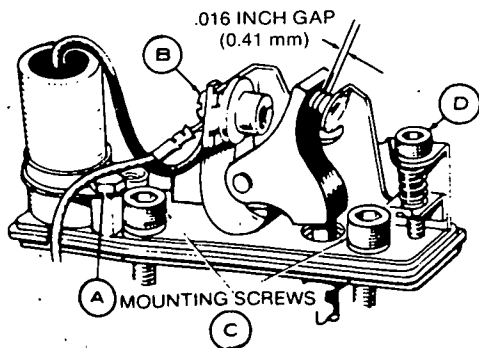
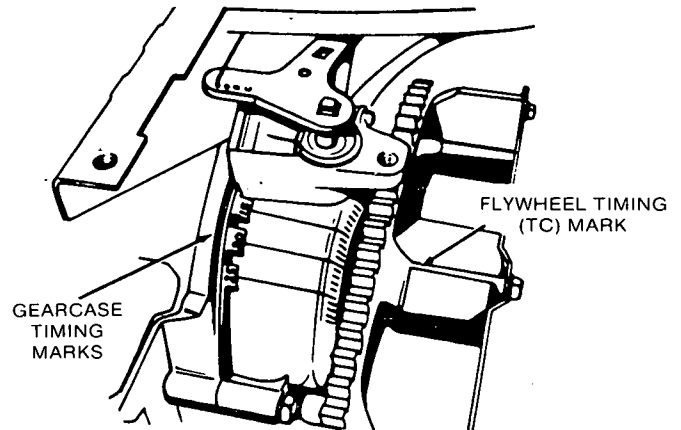

FIGURE 8. SETTING POINT GAP
FIGURE 9. TIMING MARKS
3. Remove condenser (screw A) and detach condenser lead and coil lead (screw B). See Figure 8.
4. Remove two Allen screws (C) and lift breaker assembly from engine.
6. Adjust point gap by rotating crankshaft clockwise (facing flywheel) by hand until the points are fully open. Set the point gap (using flat feeler gauge) at 0.016 inch (0.41 mm) by adjusting the Allen screw (D) inward or outward (Figure 9). A 0.016 inch point gap is equivalent to 16° BTC.
2. Remove blower housing to expose timing marks on top of gearcase cover and flywheel (Figure 9).
4. Connect an ohmmeter or a continuity test lamp set across the ignition breaker points. Touch one test prod to the coil lead terminal (screw B Figure 8).